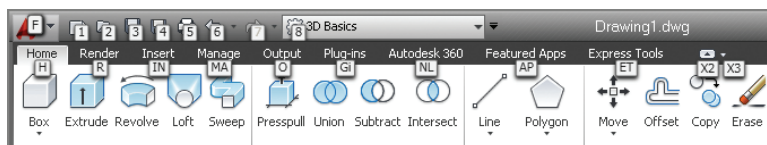

FIGURE 1.12 Keytips allow you to press keys to manipulate the ribbon with the keyboard.
- Press and release the Alt key. Keytips appear on the ribbon (see Figure 1.12). Pressing any of the letter combinations activates that part of the GUI. Type IN, and observe that the Insert tab is selected without moving the cursor.